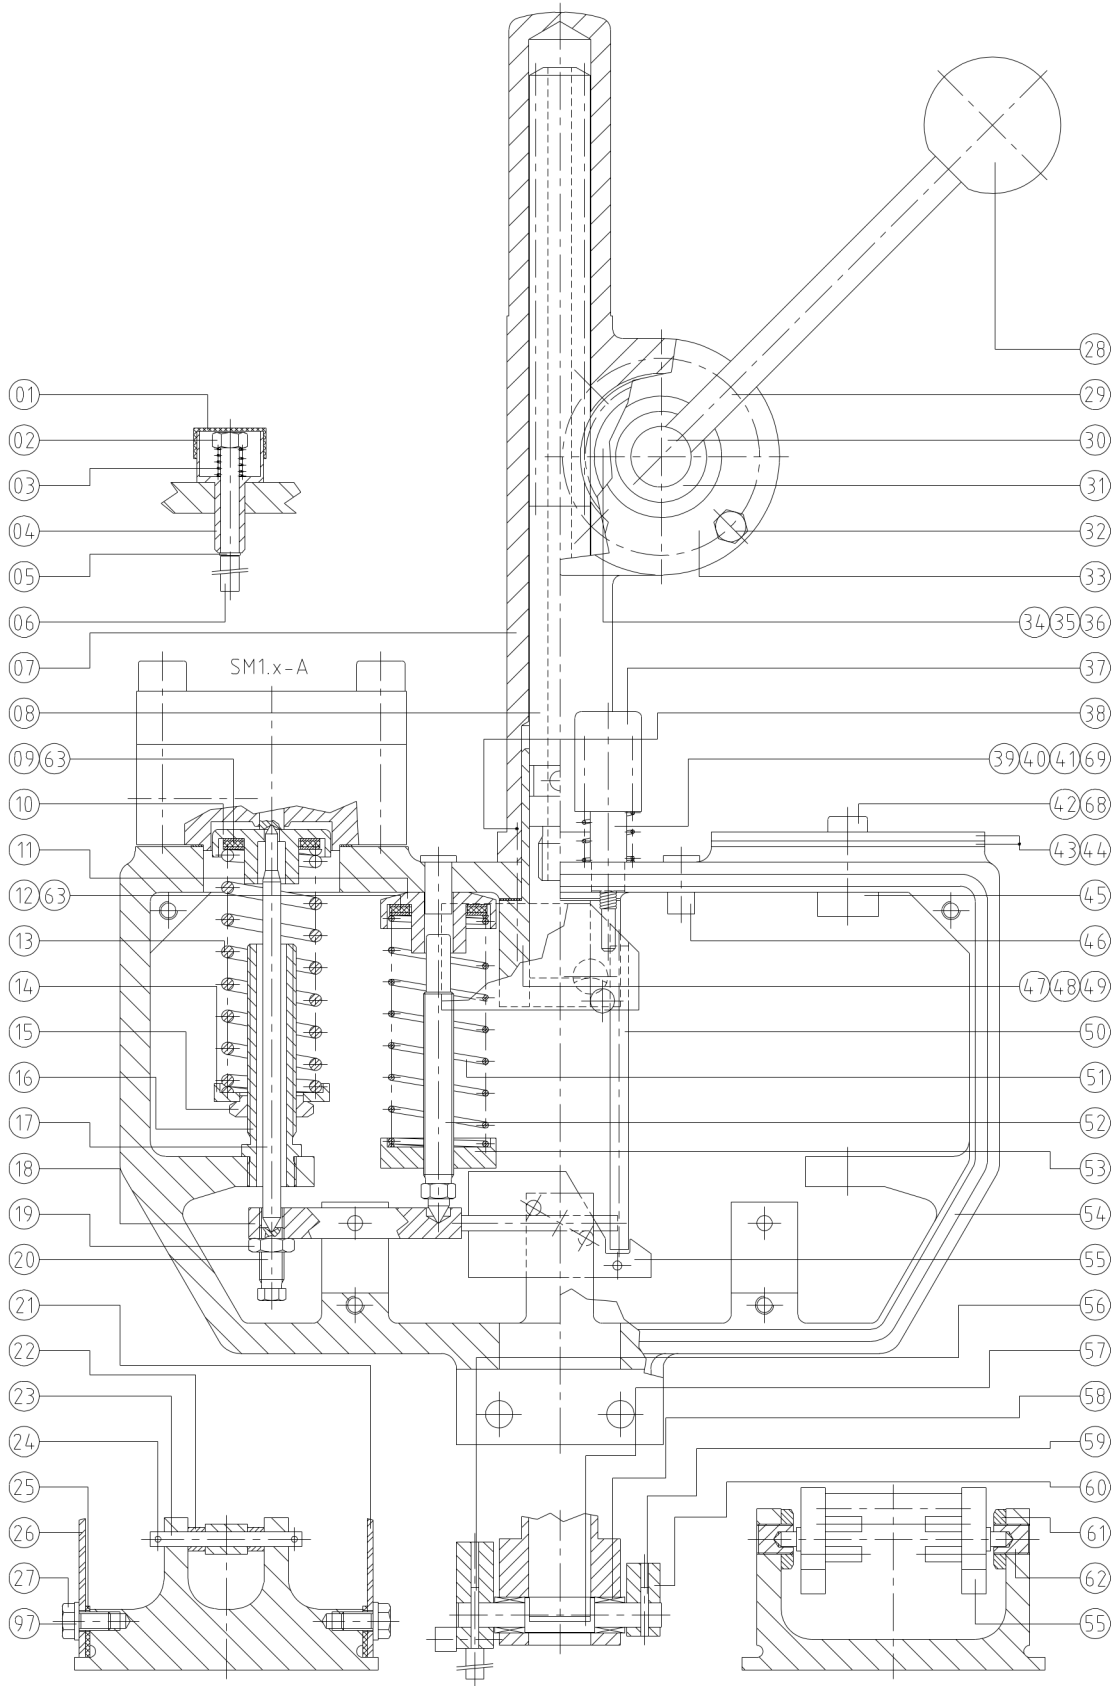

Figure 8: Control and switch mechanism SVC 086
5.1.9 Parts list switch and reset mechanism SVC086 (see also figure 8)